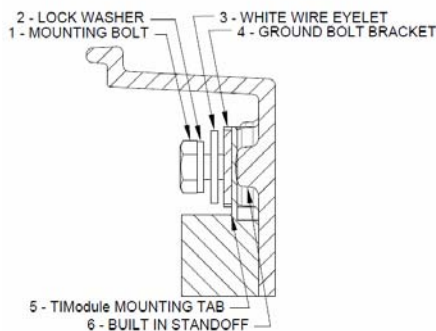
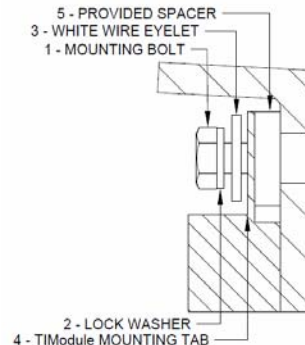

Figure 1: Multi Socket Mounting
Figure 2: Single Socket Mounting
2. Follow mounting diagram in figure 1 for a multi-socket housing or follow mounting diagram in figure 2 for a single-socket housing, then tighten mounting bolt securely.